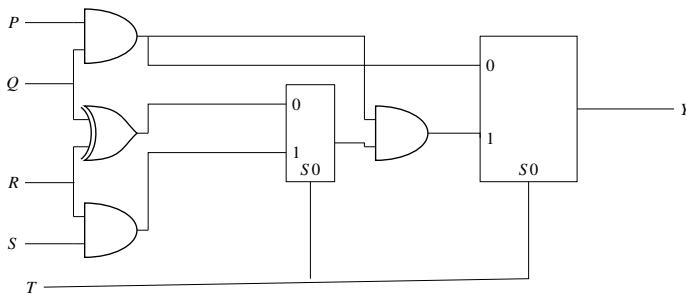

Fig. 4.25
50. The circuit shown in Fig. 4.25 comprises of XOR, AND gates and multiplexers. If all the inputs P, Q, R, S and T are applied simultaneously and held constant, find Y .